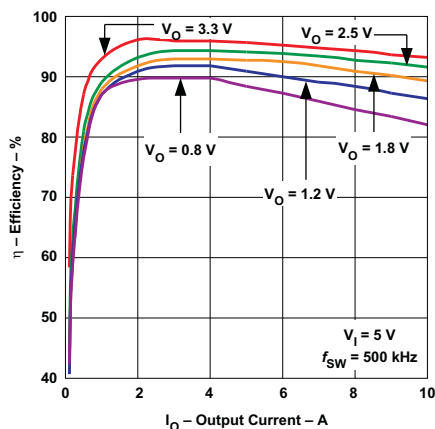
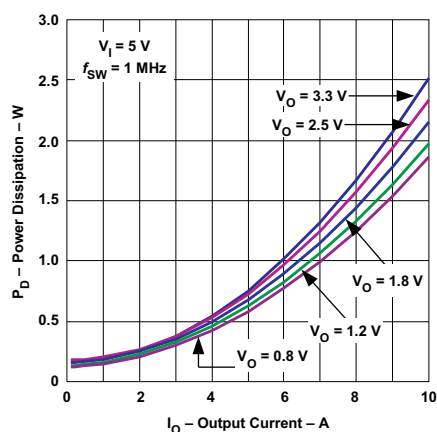

Figure 10. Efficiency
Figure 15. Power Dissipation
- (1) The electrical characteristic data (Figure 10 through Figure 15) has been developed from actual products tested at 25°C. This data is considered typical for the converter.